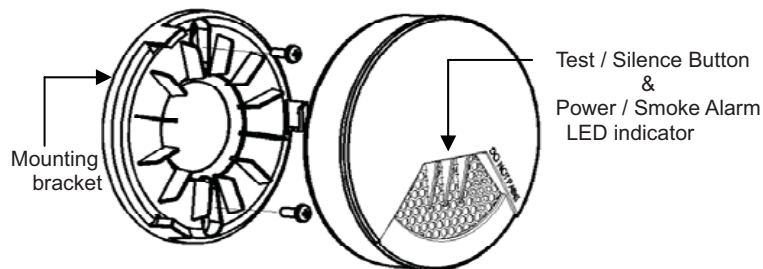

FIGURE 7
7. Line up the slot of the bracket with the detector. Push the detector onto the mounting bracket and turn it clockwise to fix it into place. Pull outward on the detector to make sure it is securely attached to the mounting bracket. (FIGURE 7)